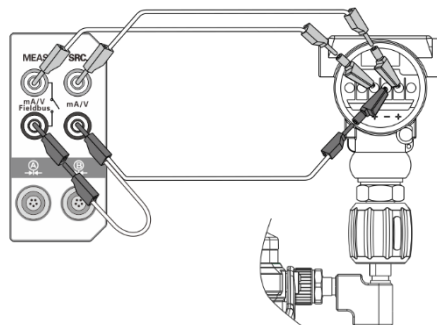

Figure 23 Calibration of a 3-wire pressure transmitter
- ◆ For 3-wire pressure transmitter, connect as shown in Figure 23.